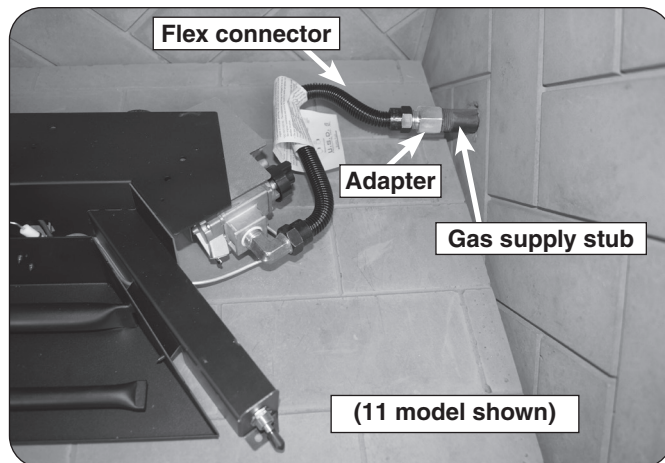

Fig. 17-1 Connect gas supply
2. Locate the gas-supply stub inside the fireplace and remove the cap, if attached (reference Fig. 17-1).
4. **Be sure gas to the fireplace is off.** Remove the adapter connected to the flex connector (pre-installed on the burner system). Attach the adapter to the gas-supply stub using a pipe compound resistant to all gasses. Tighten securely. Then attach the open end of the flex connector to the adapter. Tighten securely (see Fig. 17-1). Ensure the pan rests level on the fireplace floor after connection. Adjust the pan if necessary.